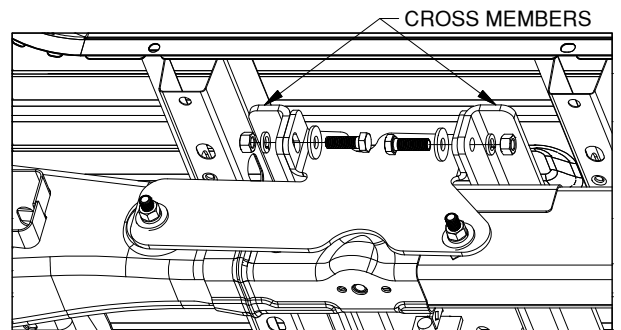

Figure C5: View of driver side wheel well.
4. **Attach side plates to cross members.** Attach the side plates to the cross members by passing two 1/2" X 1-1/2" cap screws and 1/2" flat washers through the side plate and cross members and securing with 1/2" lock washers and 1/2" finish nuts, as shown in figure C5. Do not fully tighten at this time. Repeat steps 3 & 4 on the other side of the truck.